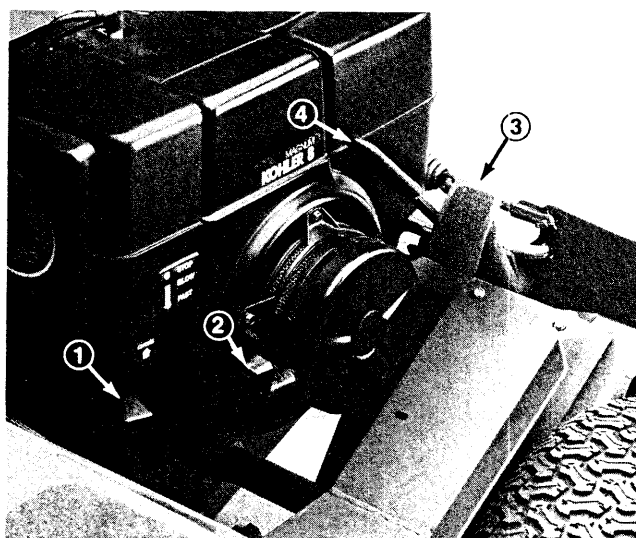

Figure 12
1. Choke (Fig. 12) — To start a cold engine, close carburetor choke by moving choke control upward to the ON position. After engine starts, regulate choke to keep engine running smoothly. As soon as possible, open the choke by pulling it downward to the OFF position. A warm engine requires little or no choking.
4. Recoil Starter (Fig. 12) — Pull starter handle to start engine.
8. Brake Pedal (Fig. 12) — Foot operated brake pedal is used to slow down or stop machine.
9. Parking Brake (Fig. 12) — Parking brake must be used in conjunction with brake pedal. Depress brake pedal and engage parking brake to hold brake pedal in engaged position. Brake is automatically released when traction control lever is pushed forward. To manually release, depress brake pedal and move lever to disengaged position.